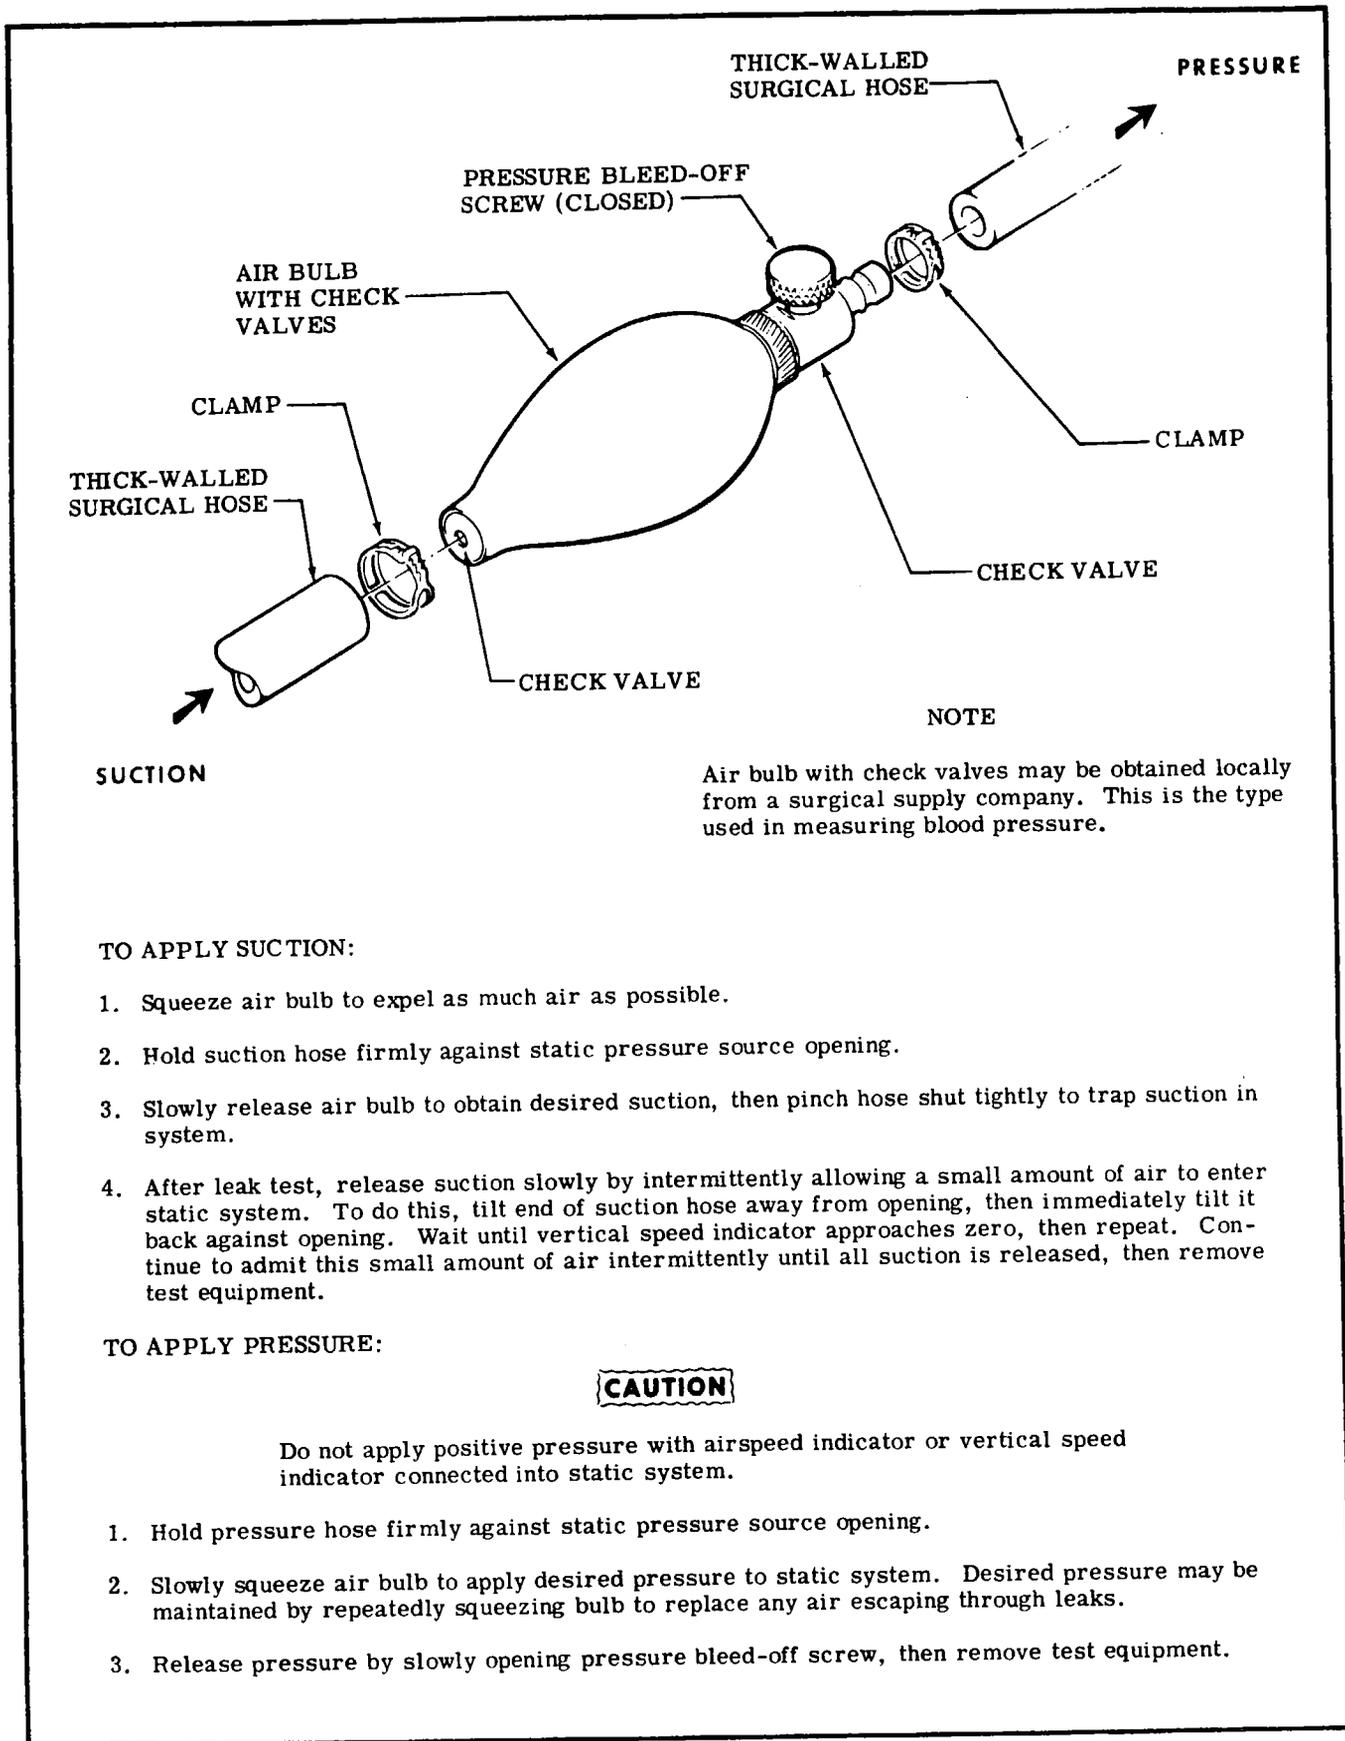

Figure 16-3. Static System Test Equipment
- e. Attach a source of suction to the remaining static pressure source opening. Figure 16-3 shows one method of obtaining suction.
- k. Attach a source of positive pressure to the static source opening. Figure 16-3 shows one method of obtaining positive pressure.